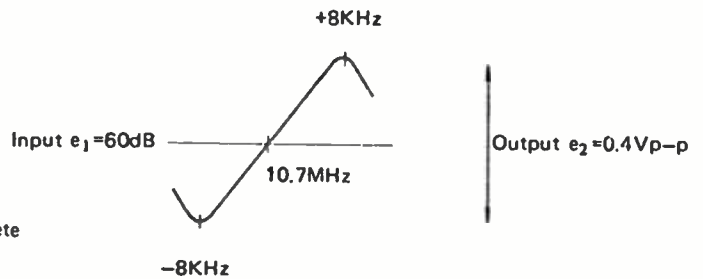

FIGURE 3. IF DISCRIMINATOR CURVE
Step 3: Adjust VHF Front-end T2, IF section T3, T4 and T5, so that 10.7 MHz is at center of discriminator curve and for best linearity as shown in Figure 3.